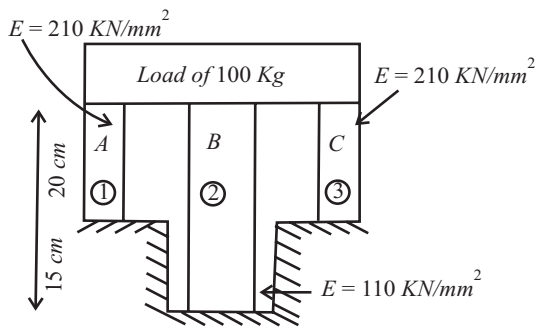

Fig. 14.37
Q. 50: A load of 100 kg is supported upon the rods A and C each of 10 mm diameter and another rod B of 15 mm diameter as shown in figure 14.37. Find stresses in rods A, B and C.